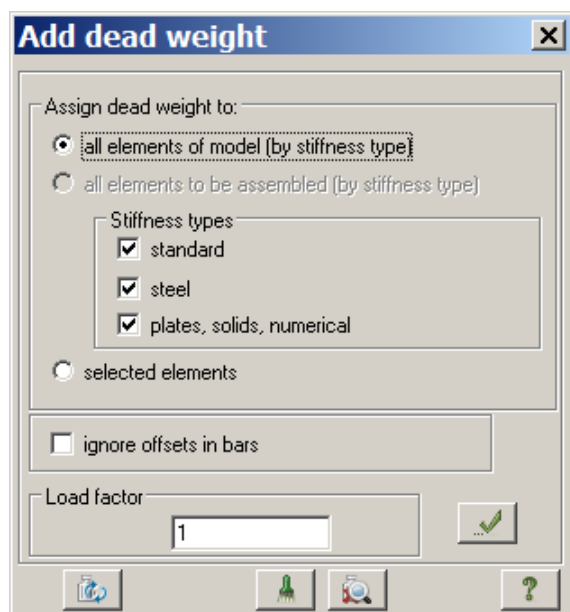

Figure 2.14 **Add dead weight** dialog box
- ⇒ In the **Add dead weight** dialog box (see Fig.2.14), click **All elements** and specify **Load factor** as equal to 1. Then click **Apply**  (dead weight of elements is added according to the specified unit weight R_0).